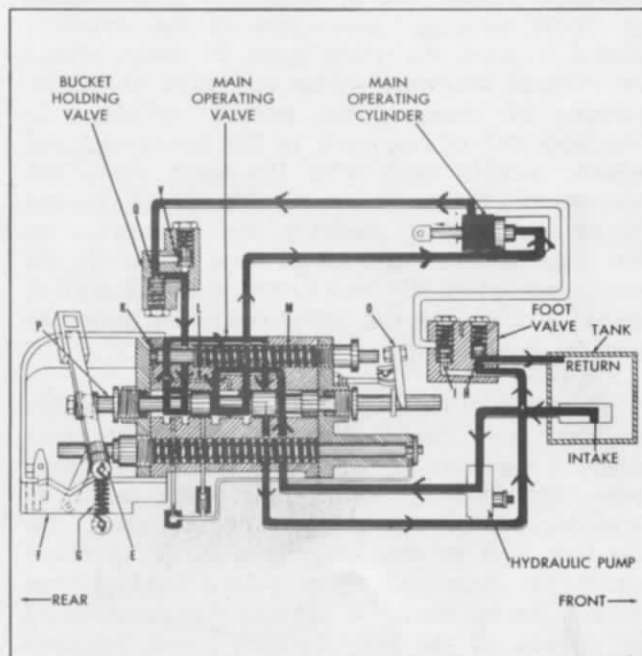

Figure 13 - Raising Body, Lowering Bucket
b. RAISING BODY OR LOWERING BUCKET. (See figure 13.)
(1) RAISING BODY. Operating lever is shifted to right, or forward position, which moves center plunger of valve to the same position. It is held in this position by tension of spring G pulling rollers E into notches on top and bottom of cam F. Oil flow as indicated by arrows is from tank to pump and to main operating valve. From the main operating valve, the oil passes out the side pipe outlet through oil line directly to lower end of operating cylinder, thus raising the body. As the body rises, return oil from upper end of cylinder flows through pipe indicated by arrows to bucket holding valve. Inside the bucket holding valve, plunger Q is opened to allow oil to pass and flow to main valve through side pipe. From the main valve the oil flows downward through pipe line to the foot valve and to tank. When body reaches maximum height the piston contacts the top end of the cylinder which causes a higher pressure to build up in the oil lines. This pressure, through a passage L within the main valve, flows to knock-out plunger K,
(2) LOWERING BUCKET. Position of both operating lever and valve are the same as for raising body. Oil flow is also the same. However, since the body is locked by hooks gripping subframe, operating cylinder piston moves outward and pushes the rack gear toward rear of machine. The knock-out rod, which is attached to the front end of the rack gear, also moves back until the stop piece on its forward end contacts the knock-out lever and moves it back so as to pull operating lever to neutral position. This stops bucket at proper loading position. In the event this stop fails to operate, the rack gear will continue to move back until it comes up against the stop bar which is built across the rack track channels. When the rack contacts this stop, the cylinder piston cannot move any further, and a pressure is built up in the cylinder, thus causing the main operating valve to be thrown to neutral position the same as explained above when body reaches highest position. Referring to figure 13, note that oil pressure opens plunger Q against spring pressure. When bucket is stopped at any point of travel, the tension of this spring